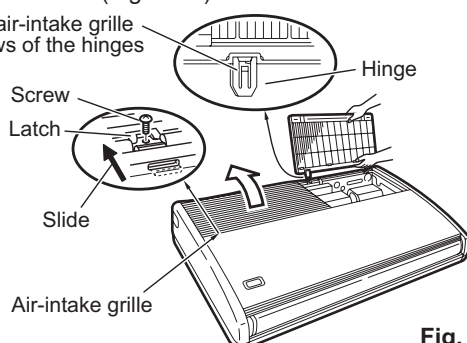
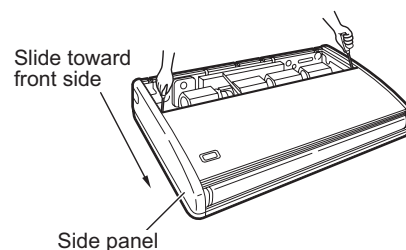

Fig. 2-72
Fig. 2-73
- (5) Before suspending the indoor unit, remove the 2 or 3 screws on the latch of the air-intake grilles, open the grilles, and remove them by pushing the claws of the hinges (Fig. 2-72). Then remove both side panels sliding them along the unit toward the front after removing the 2 attachment screws. (Fig. 2-73)